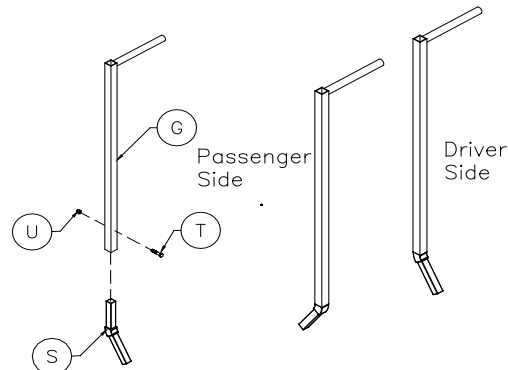

Figure 12
Figure 12. Drill a 3/8" hole through the top pivot arm and pivot arm elbow about 4" in from the bottom edge of the top pivot arm. Bolt together with a 3/8"x1-3/4" bolt (T) and 3/8" nylon lock nut (U). Do all four at the same time and there are lefts and rights.